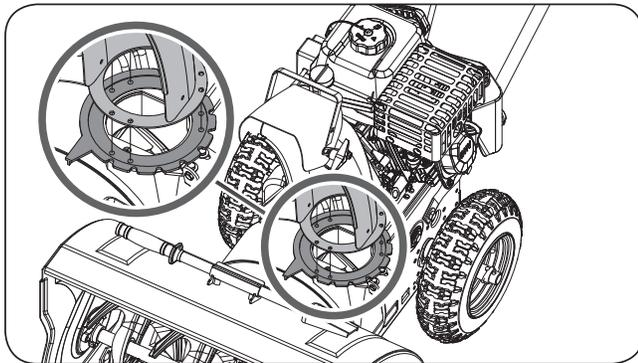

Figure 5b
2. Place the discharge chute facing it forward over the chute crank flange. (See **Figure 5b**)